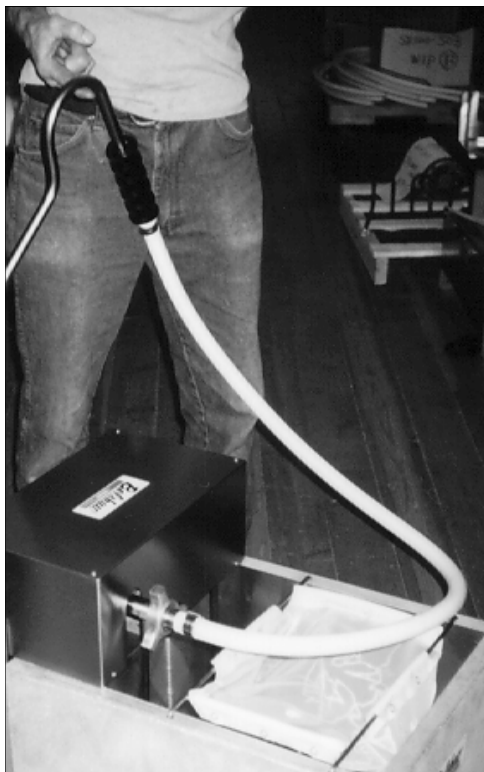

Figure 1-13. Rinsing Hose.
6. Attach the rinsing hose securely to the hose connector. (See Figure 1-13.)